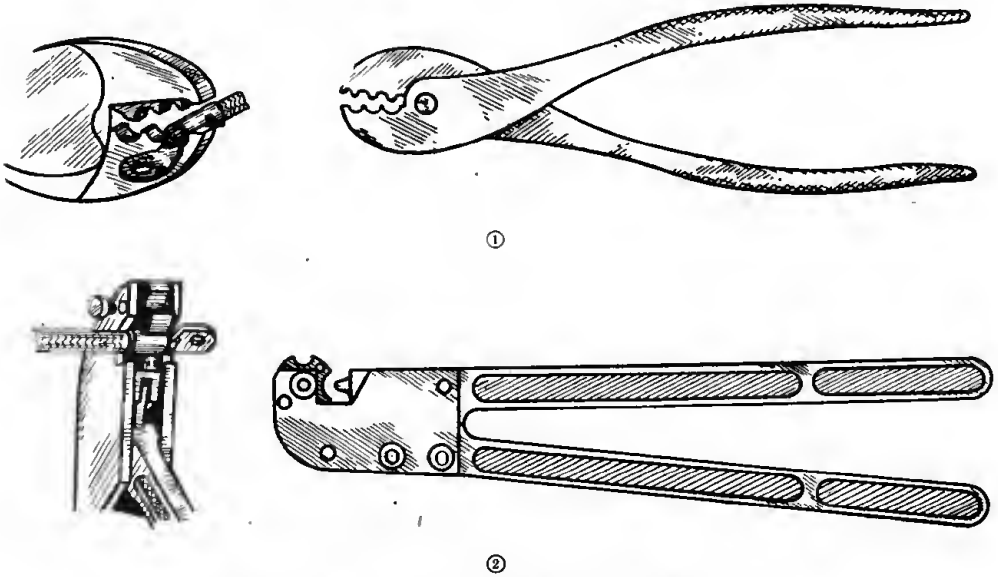
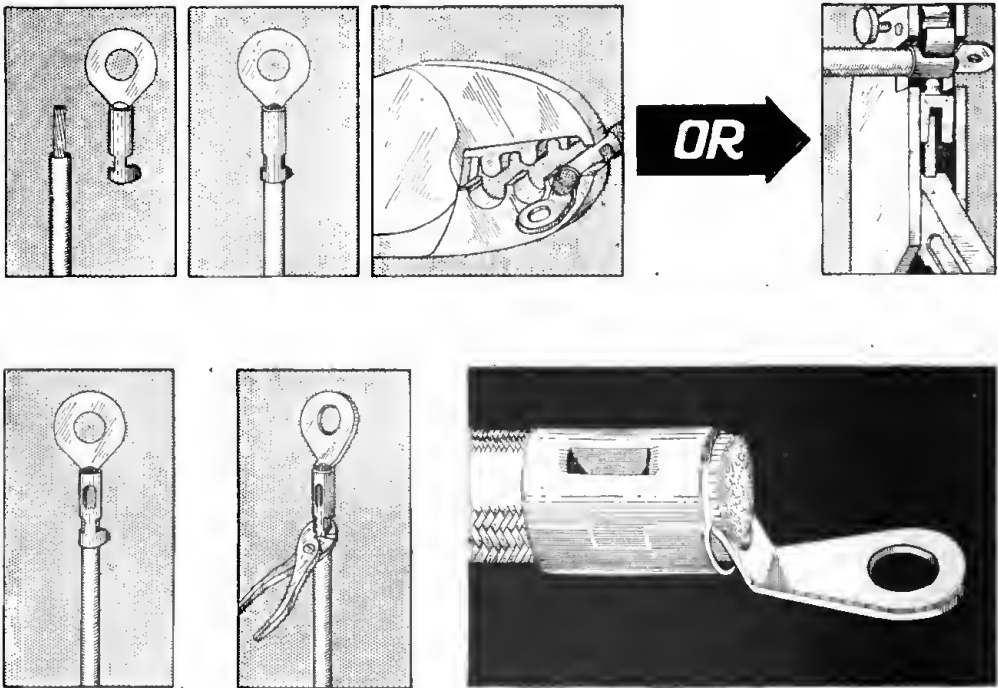

Figure 178. Solderless-terminal staking tools.
Figure 179. Method of installing solderless terminals.
f. **SOLDERLESS TERMINAL-STAKING TOOLS.** These tools are used to install solderless electrical terminals. Two types are shown in Figure 178. The tool shown in figure 178① is used to install terminals on No. 10 or smaller wire. Terminals are installed on No. 8 or larger wire with the tool shown in figure 178②. To install a terminal (fig. 179), skin the